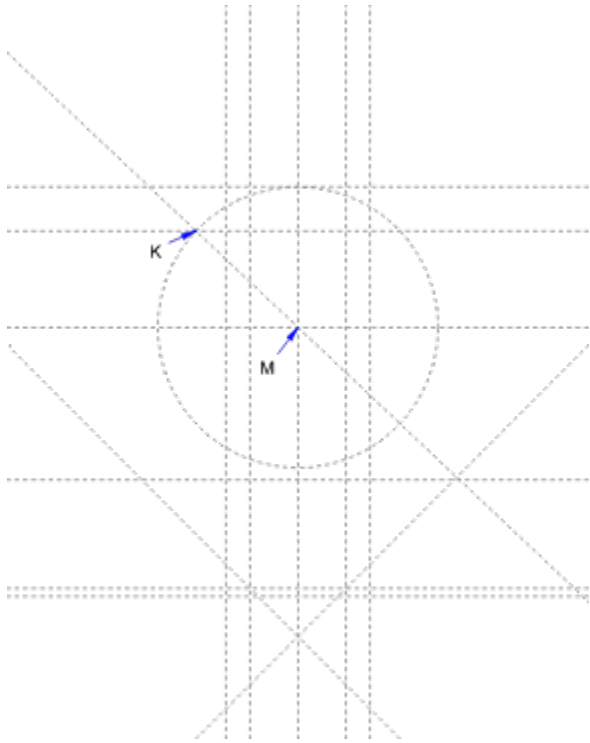

Figure 4
The left hand intersection of this new geometry line with the geometry circle is one end of the center line of the ball head's blank space (Figure 4, K). The other end of this center line lies at the center of the circle (M). Use Geometry>Geometry Line>Standard.